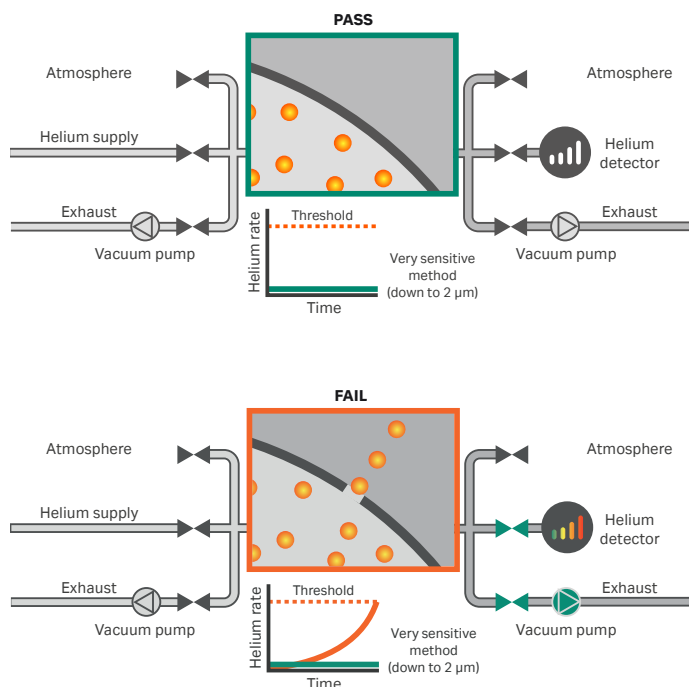

Fig 4. Leak rate measurement.
A highly sensitive mass spectrometer (MS) connected to the test chamber quantifies helium gas concentration. A leak rate calculated from the helium concentration in the test chamber is compared to an acceptance criteria (threshold value) to determine whether the tested SUS assembly passes or fails the test (Figure 4).